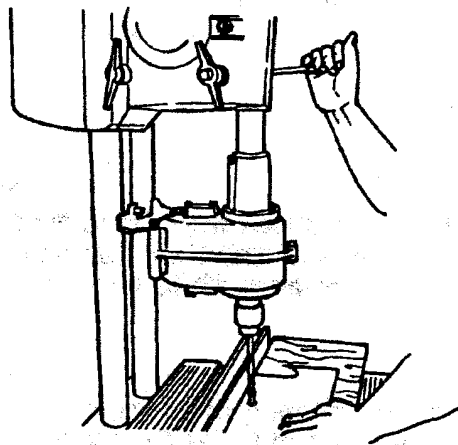

Fig.17
- You should securely clamp the workpiece so it remains immobile and stable as you drill. Usually you can use the rip fence and the miter gauge on the worktable. See Fig.17.